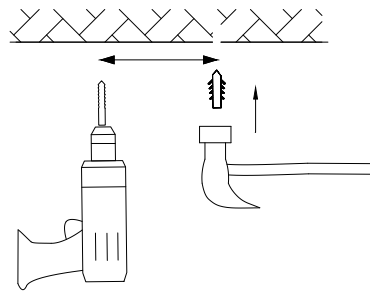

Figure 8
1. Using the Yoke mount bracket as a template, mark and drill holes in the ceiling. Use a hammer to install the anchors into the drilled holes. (Figure 7 and Figure 8)